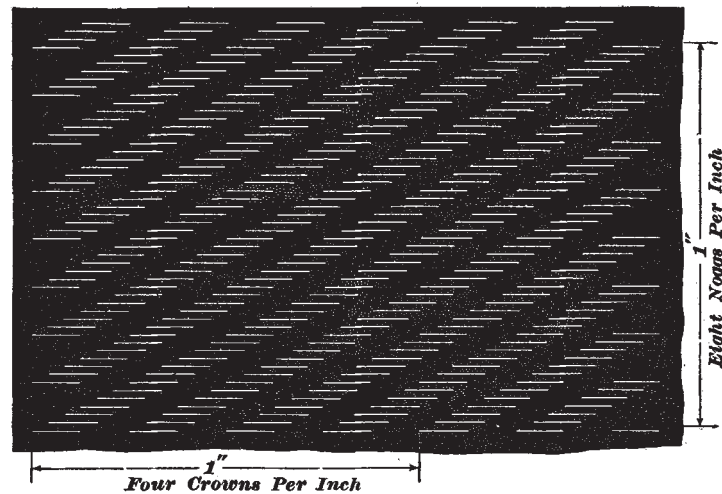

FIG. 4
rib-set clothing may be either twill set or plain set. To find the **crown** of a piece of clothing, the number of crowns, or backs, of teeth in 1 inch of two rows should be counted. Therefore, 8-crown clothing would contain 4 crowns per inch across the clothing, but there would be eight points per inch in one row on the face of the clothing, as there are two points to every crown. The piece of sheet clothing shown in Fig. 4 is 8-crown clothing, having 4 crowns per inch. Fancy clothing is more open, being usually set with 4 crowns for fillet $1\frac{1}{2}$ inches wide.
7. The **nogg** is the distance between the first tooth of one line of twill and the first tooth of the next line; thus, if as in Fig. 4 the clothing has a 6-twill, there are 6 teeth per nogg. If more points per square foot are wanted, the number of noggs per inch is increased; if less points are desired, the number of noggs is reduced. The noggs run crosswise of the sheets of sheet clothing and lengthwise of the strip of fillet clothing. After either sheet or fillet clothing is applied to the card, the noggs always run around the rolls, while the crowns extend from side to side of the card.
EXAMPLE.—Find the number of points per square foot in the sample of card clothing shown in Fig. 4, the number of crowns per inch being 4, the number of teeth per nogg 6, and the number of noggs per inch 8.